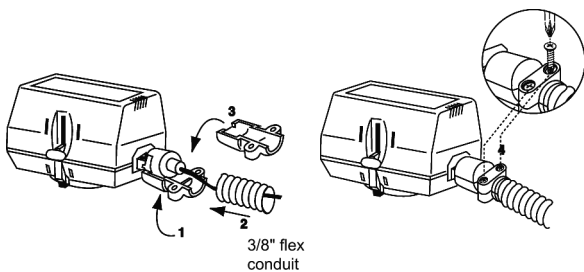

Fig. 3. Flexible Conduit Attachment
2. Connect lead wires. See Fig. 3 for flexible conduit installation with plenum-cable models.